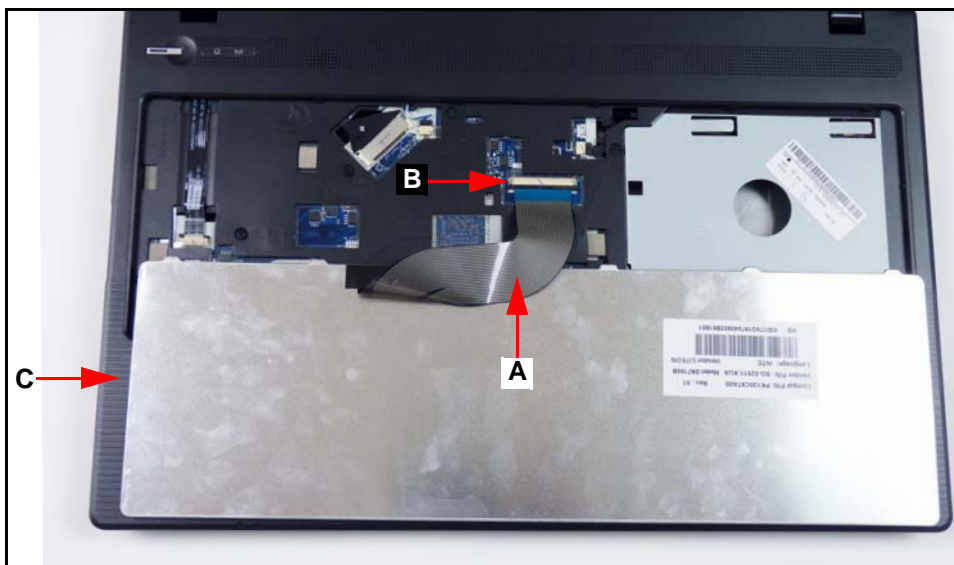

Figure 3-6. Keyboard FPC
2. Turn the keyboard over so that the keys are face down on the palm rest (C). (Figure 3-6)
3. Disconnect keyboard FPC (A) from mainboard connector (B). (Figure 3-6)
1. Put the keyboard face down on the palm rest (C). (Figure 3-6)
2. Connect keyboard FPC (A) to mainboard connector (B). (Figure 3-6)